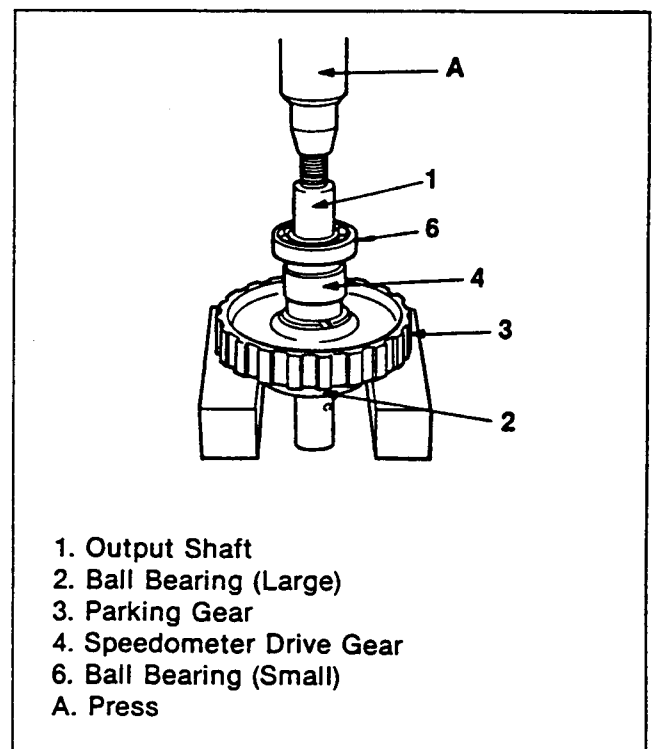

Figure 183. Ball Bearing (Small), Speedometer Drive Gear and Parking Gear Removal
Disassemble (Figures 183 and 184)
1. Remove the ball bearing (small), speedometer drive gear, steel ball and parking gear with a press (figure 183).